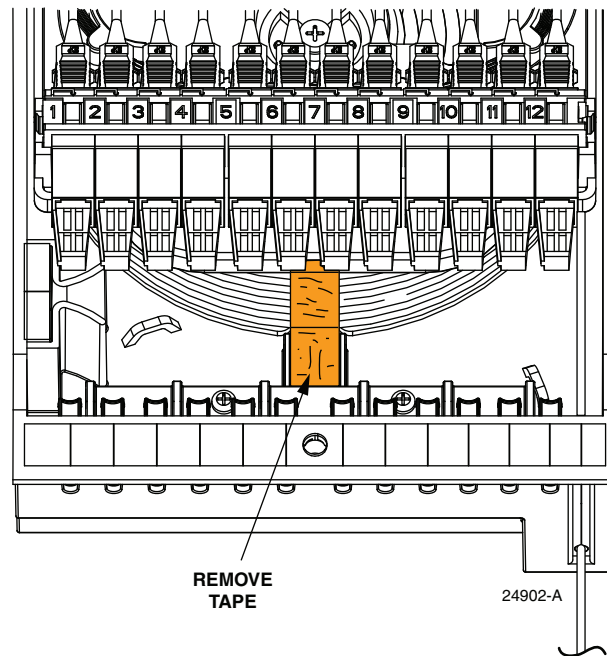

Figure 10. Removing Tape
3. Remove the tape from the foam spool and cut the cable tie securing MPO to back of the mini-RDT, as shown in Figure 10.